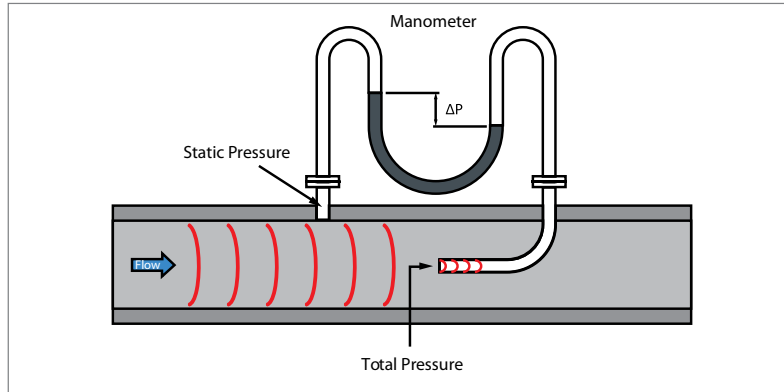

Fig 1: Henry Pitot Classical Design
The Tek-DP 1650A DProbar is a multiport self-averaging flow meter (SAFM). It is designed using a classical and modern proven design as associated with averaging pitot tubes for clean process fluid measurement applications. It is a primary flow meter for the measurement of gas, liquid and vapors flowing in pipelines and ducts based on principles of differential pressure measurement (DP). Classical Pitot tubes are a common type of insertion flowmeter and were used for many years as single port designs, named after Henri Pitot who first used a bent glass tube to measure velocities of flowing rivers in France during the 1700s. His original principle stated that a total pressure head is generated in a tube facing a flowing fluid due to the fluid velocity, this 'velocity' head pressure is thus compared against a reference pressure / static pressure in the pipe. (See Figure 1 below).